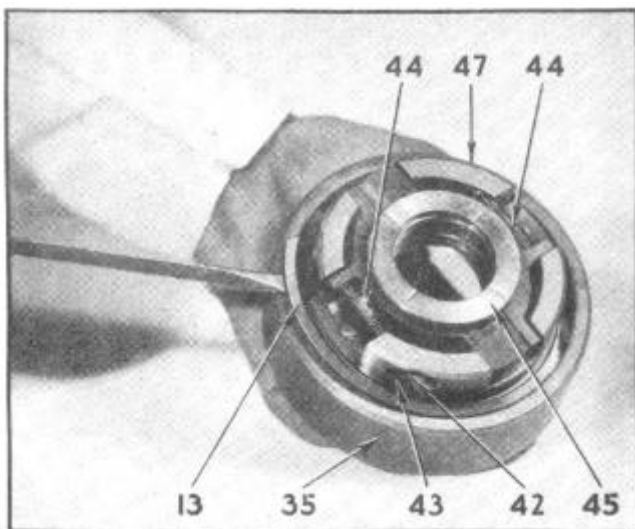

Figure 34--Disassembling Clutch Pawl and Core Assembly
2. Remove snap ring (13), Figure 34, and lift clutch pawl and core assembly (45) out of ring gear (35).